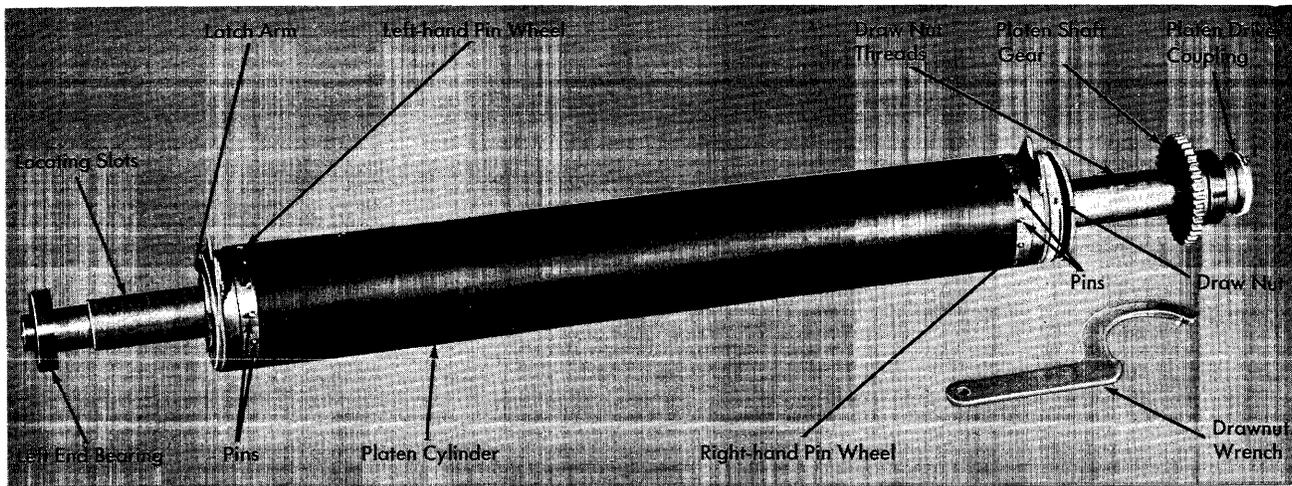

Figure 92. Pin-Feed Platen Assembly
Changing Platen Cylinders. Remove the platen assembly from the carriage in the normal manner. After the assembly (Figure 92) has been taken out of the machine, remove the left end bearing, which is held in place by spring tension. Next, the pressure placed on the platen must be released by rotating the draw nut of the right-hand pin wheel counterclockwise until the stud in the side of the draw nut lifts the draw-nut latch up out of the threads in the platen shaft. When the pressure has been released, the latch arm of the left-hand pin wheel can be pressed, and the assembly will slide off the shaft. The platen cylinder can then be removed from the left end of the shaft.
4. When the right pin wheel is as tight against the platen as possible, rotate the draw-nut latch to engage with the threaded portion of the platen shaft. Turn the draw nut as far as possible. A wrench (Figure 92) is provided for this operation. Place the platen on the reading board with the wrench engaged and under the platen, and turn the platen with both hands, thus tightening it against the wrench.
the left-hand or fixed pin wheel (Figure 92). The left-hand pin wheel can be moved by loosening the draw nut and pressing the latch arm and sliding the pin wheel along the shaft to a new location. Make sure that the latch is firmly seated in one of the large cross-cut locating slots in the platen shaft.